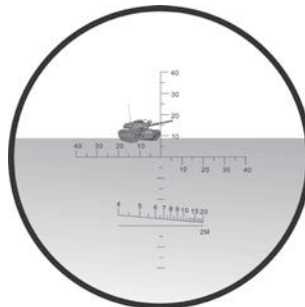

FIGURE 5. HORIZONTAL VIEW ANGLE MEASURING
A. When the Horizontal View Angle is smaller than the horizontal scale range (-40~+40 mils) inside the binoculars, aim one edge of the object at a horizontal scale line (the center or the outmost line are selected according to the image size of object usually) and read its value. Then read the value of the scale at which another edge was located. Add these two values, the sum value is the measured Horizontal View Angle. As shown in Figure 5, the Horizontal View Angle of the target (tank) is 20-00 mils, and the Horizontal View Angle is 20 mils.